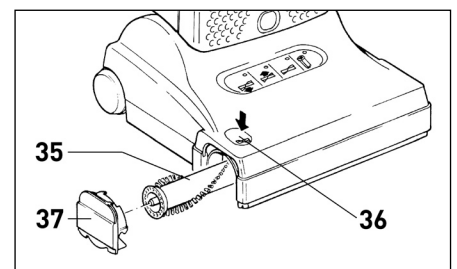

Figure 13
## Changing the Brush Roller - Figure 13
The sealing strip (39) is located just behind the brush roller opening. The sealing strip seals the power head to hard floors to prevent kick-back of debris while vacuuming. To replace a worn sealing strip, push the release button, remove the side plate (36 and 37 in figure 13) and slide the old strip out. Insert the new strip into the slot and slide into place.